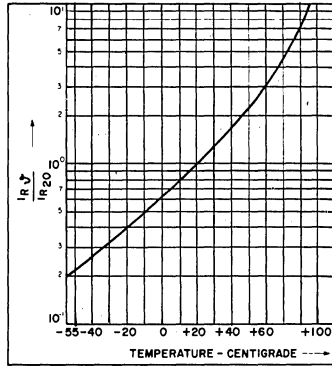

Figure 4
**LEAKAGE CURRENT** — Current measured through a 1,000Ω resistor with rated voltage applied for 3 minutes at +25°C. This current does not exceed 0.05 times capacitance (μF) times rated voltage (volts), or 2 μA, whichever is greater. At +85°C, typical leakage current is less than 10 times the value at +25°C. See figure 4.